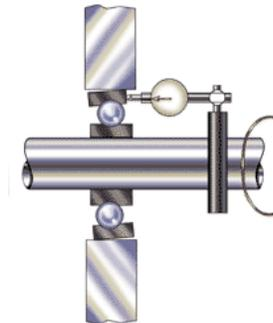

Figure 3. Indicator setup for measuring outer race runout.
**How is alignment measured?** A simple measurement of outer race runout detects the non-perpendicularity of the outer race to the shaft rotating axis as the shaft is rotated (Fig. 3).